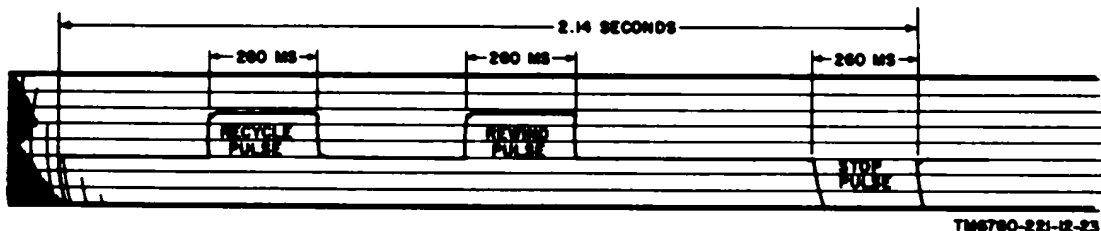

Figure 23. Typical brush recording.
- (4) The recording on the Brush recorder should be as shown in figure 23.
- (5) Turn off all power and disconnect the test setup.